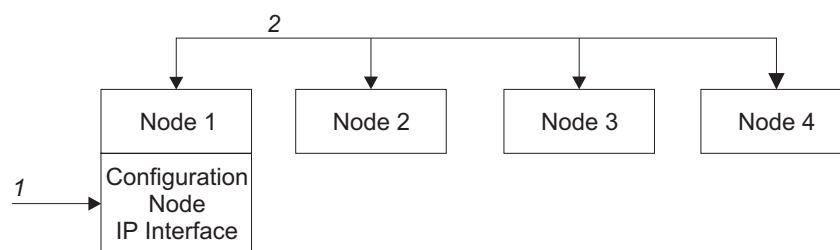

Figure 4. Configuration node
Figure 4 shows an example cluster containing four nodes. Node 1 has been designated the configuration node. User requests (1) are targeted at Node 1. This can cause requests that are targeted at the other nodes in the cluster to have their data returned to Node 1.